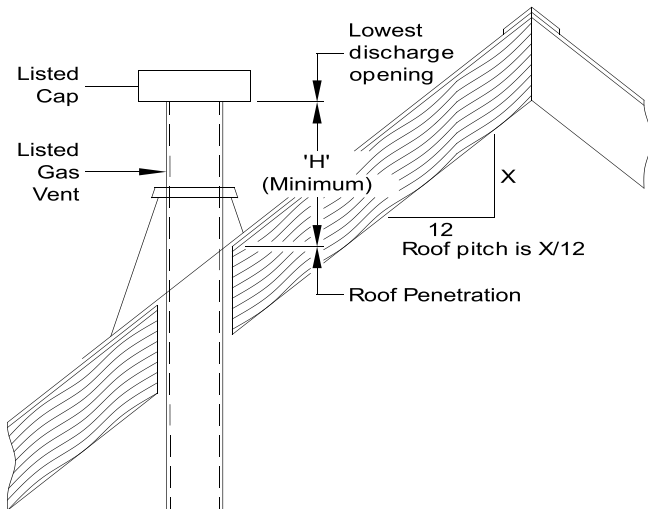

Figure 6-4: Termination Location for Gas Vent
- For terminations located at least 8 ft. from vertical wall or similar obstruction, termination shall extend above roof in accordance with Figure 6-4.